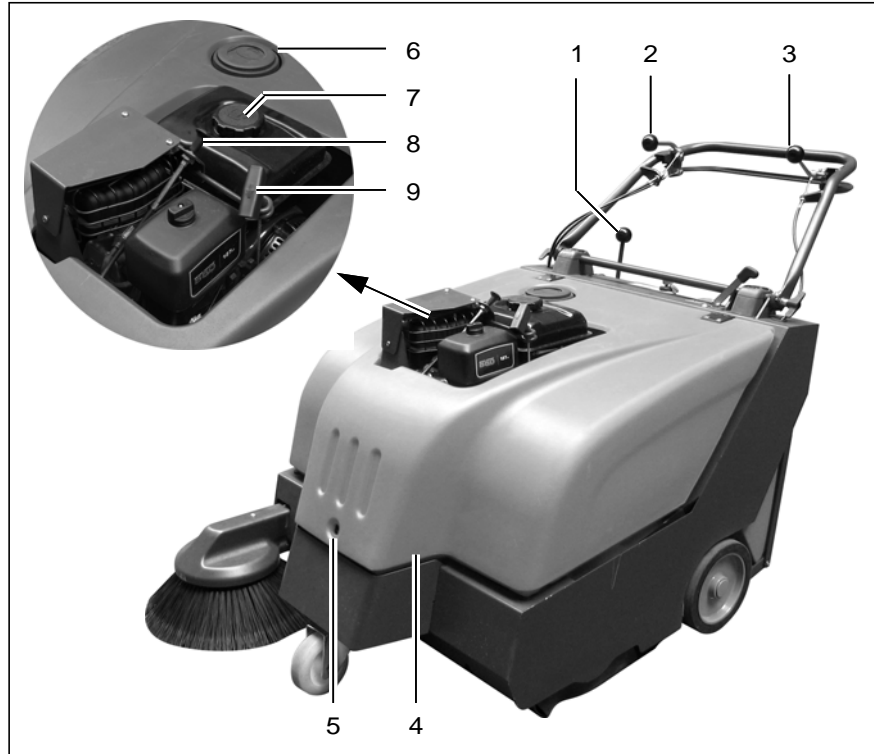

Fig. 7
Unscrew the fuel tank cap (Fig. 7/7) and fill approx. 2.5 l gasoline. Screw the fuel tank cap back on.
Side brush lever (Fig. 7/1)
Parking brake lever (Fig. 7/2)
Folding apron lever (Fig. 7/3)
(Fig. 7/4)
The hood should only be opened for maintenance and repair work. In this case, unlock the lock (Fig. 7/5) using a square wrench and pivot the hood up.
Bypass flap (Fig. 7/6)
Fuel tank cap (Fig. 7/7)
Choke (Fig. 7/8)
Recoil starter (Fig. 7/9)
2. Pull out the choke (Fig. 7/8) in the case of a cold start.
3. Pull the recoil starter cord (Fig. 7/9) until the starter clutch perceptibly engages (slight resistance) and then pull the starter cord (Fig. 7/9) hard and fast to start the engine.
4. Release the starter cord (Fig. 7/9) and let it recoil back into the housing.
5. Then push the choke (Fig. 7/8) back in, slowly.